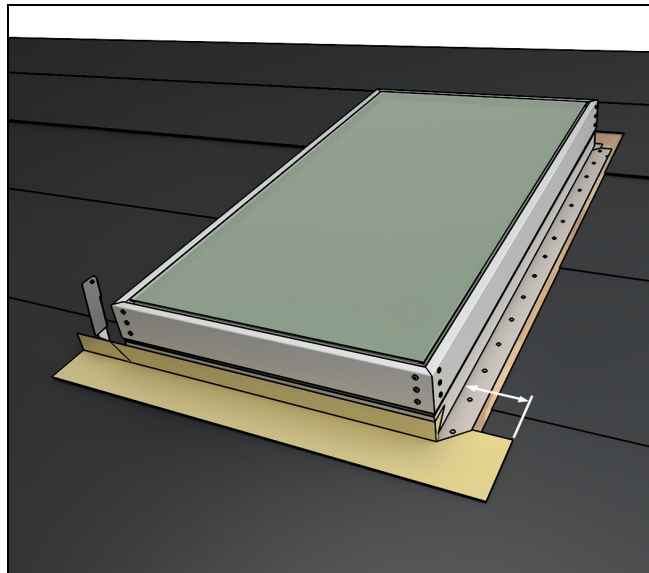

Figure 12
10. To ensure waterproofing, unit frames should be completely wrapped in supplied adhesive flexible flashing. This adhesive flexible flashing must be applied before installing the rigid flashing. Wrap sill with adhesive flexible flashing and create water-shedding laps over roofing underlayment. Flexible flashing must extend at least 6" from the edge of the frame. Note: Flexible flashing cannot interfere with kerf. See Figure 12.